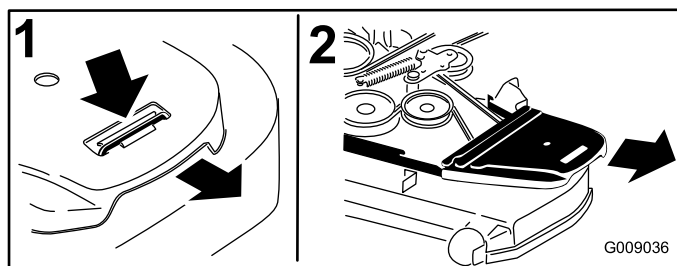

Figure 1
2. Remove the right belt cover (Figure 1).